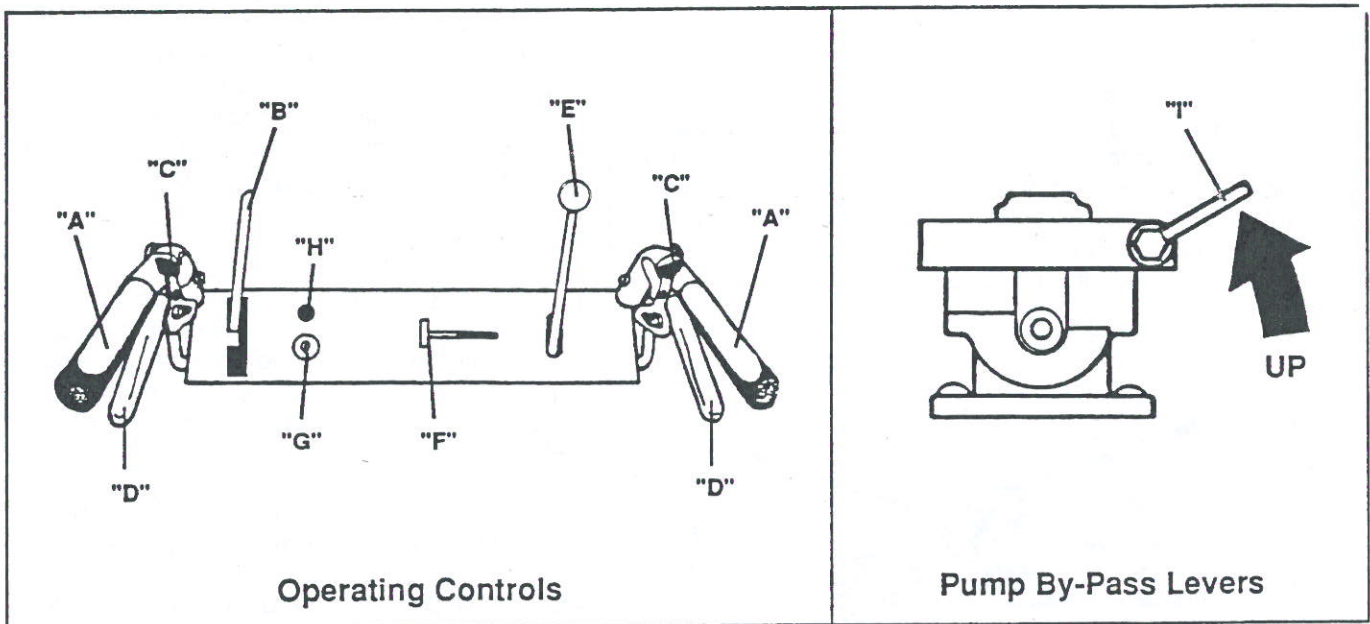
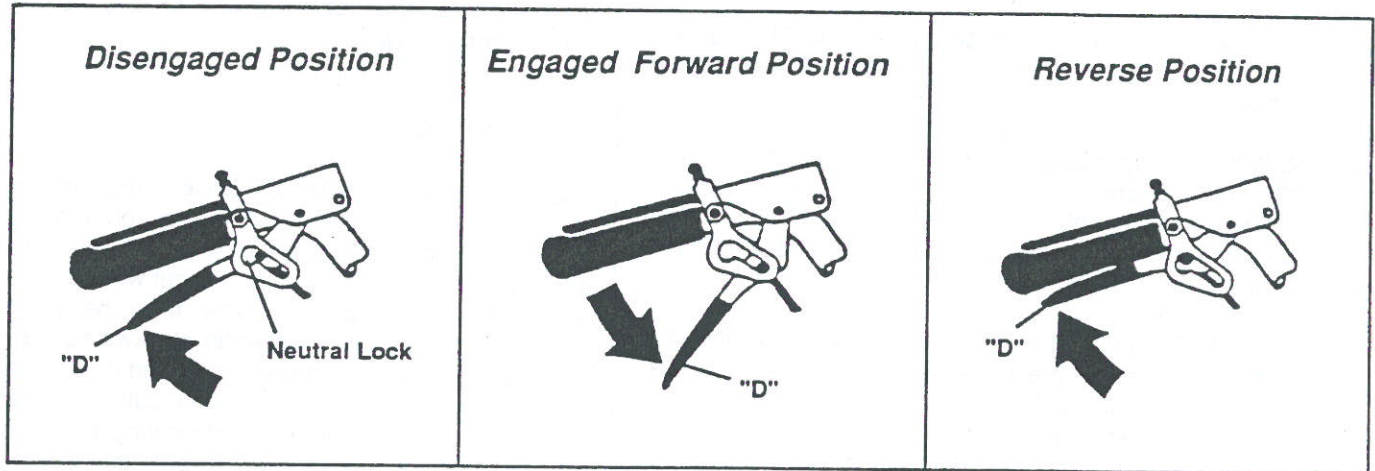

Figure 4
Figure 5
**Operator Presence Control Levers "A" (Figure 4):** The operator presence controls are a set of levers which when held down on the handle grips, energize the safety interlock switch. **Important:** Should the operator for any reason let go of both the operator presence control levers "A" while mowing, the safety interlock system will stop the engine.
**Blade Engagement Lever "B" (Figure 4):** To engage cutter blades, slowly push blade engagement lever "B" forward to the ENGAGED slot position. To disengage blades, pull blade engagement lever back toward operator to the DIS-ENGAGED slot position. **CAUTION:** Before starting engine or servicing mower, make sure the blades are disengaged.
**Traction Lever Locks "C" (Figures 4 & 5):** The traction lever locks "C" allow the operator to lock the traction control levers in neutral position for engine starting and free wheeling. To lock the traction control levers "D" in the neutral position (Figure 5), lift both traction levers "D" with fingers and pull lever locks "C" toward operator with thumbs until the curved end of the traction rod falls into the neutral slot (Figure 5).
**Traction Control Levers "D" (Figures 4 & 5):** Your mower is equipped with finger tip traction control levers "D", that control each wheel motor pump for turning, forward traction, reversing and stopping. **Important:** See Operating Instructions (Page 9) for detailed operating procedures.
**Ground Speed Selector Lever "E" (Figure 4):** The mower ground speeds can be changed without changing
**Throttle Control "F" (Figure 4):** The mower is equipped with a throttle control that increases and decreases engine speed. Please refer to console decal instructions for correct operation.
**Ignition Switch "G" (Figure 4):** Before attempting to start engine, the ignition key must be turned clockwise to the "RUN" position. To stop engine, turn key fully counter-clockwise, shutting engine off. **Note:** Always turn fuel supply off after stopping engine, storing or transporting.
**Choke Control "H" (Figure 4):** Certain engines may utilize a manual choke control for cold engine starting. Pulling choke control knob "H" outward activates the choke. Upon engine starting push choke control knob back in.
**Free Wheel By-Pass Valve "I" (Figure 4):** A hand operated by-pass valve (Figure 4) is located on each hydraulic pump to allow the mower to be pushed or free wheeled when the engine is not running. To override the hydraulic system, simply turn each by-pass valve counter clockwise (1 turn) and push or free wheel the mower. Prior to starting the engine, be sure to turn the by-pass valve clockwise to the close position. **Note:** Do not turn the valve handle more than 1-1/2 turns when preparing the mower for pushing or free wheeling.
## STEERING, STOPPING AND POWER TURNING (Figure 5):
Your mower is designed for the operator to hydraulically steer, turn, stop, and back up the mower by simply manipulating the traction control levers "D" (Figure 5) "up" or "down." Lowering both traction control levers "D" down into the engaged position (Figure 5) propels the mower forward. To make right turns — raise the "right-hand" traction lever. For left turns — raise the "left-hand" traction lever. **CAUTION: Due to the quick responsiveness of the hydraulic controlled wheel motors, use extreme caution when making turns.** To stop the forward motion of the mower — simultaneously raise both traction control levers "D" upward to the neutral (disengaged) position (Figure 5). To remain stopped, lock the traction controls into the locked, neutral position and move the ground speed control lever to neutral.
## POWER REVERSING (Figure 5):
One of the unique advantages of the hydrostatic mower is the ability to back and steer in reverse. When it becomes necessary to back up (reverse) your mower, slowly pinch both traction control levers "D" (Figure 5) up against the handle grips (Figure 5) and cautiously back up. Steering in reverse is accomplished by manipulating the traction control levers "D" (Figure 5) as necessary to back up your mower in the desired direction. **CAUTION: Always use extreme caution when backing up in reverse. Be alert to what is in behind you as well as your footing.**
## STARTING ENGINE (Figures 4 & 5):
1. Place the traction control levers "D" up into the neutral lock position (Figure 5).
2. Check to make sure that the blade engagement lever "B" (Figure 4) is pulled backward to the disengaged position, and the ground speed selector lever "E" (Figure 4) is moved down into the neutral start position on the console.
3. Push the throttle control "F" (Figure 4) "right" to the FAST position. Turn ignition key to the RUN position. Set engine choke as required. Standing on the "left-hand" side of the mower, give the recoil rope starter one quick pull. Upon engine starting, gradually move the throttle control "F" (Figure 4) to the desired engine speed.
## STARTING TO MOW (Figures 4 & 5):
1. When ready to mow, hold either the left or right hand operator presence control lever "A" (Figure 4) down on the handle grip and hold in position.
2. Move the ground speed selector lever "E" (Figure 4) to a slow forward speed. **Note:** Always begin mowing with a slow ground speed and increase as necessary to match the mowing conditions.
3. Slowly push the blade engagement lever "B" (Figure 4) forward into the ENGAGED slot position to activate the blades.
4. With your fingertips pinch up on the traction control levers "D" (Figure 5) and push the traction lever locks "C" (Figure 4) forward with thumbs. Slowly let the traction control levers "D" down simultaneously into the engaged position (Figure 5) and begin mowing.
**Important:** Should the operator for any reason let go of both of the operator presence control levers "A" (Figure 4) while mowing, the safety interlock system will stop the engine. To restart the engine, place the traction control levers "D" into the locked, neutral position. Move the ground speed selector lever "E" (Figure 4) into the "Neutral" start position and pull the blade engagement lever "B" (Figure 4) backward into the locked "Disengaged" position. Follow the Start Engine procedures described on page 9.
You can mow across a hill or grade by squeezing the traction control lever "D" (Figure 4) on the uphill side. This helps the mower from side slipping. **Note:** When changing directions, always turn uphill to give you better control of the mower and assisting you in keeping your balance.
### STOPPING MOWER (Figure 5):
1. To stop the mower, place the traction control levers "D" (Figure 5) in the neutral, locked position.
2. Move the ground speed selector lever "E" (Figure 4) down to the neutral position (Figure 4) and disengage the blades by pulling the blade engagement lever "B" (Figure 4) backward into a locked, neutral position.
3. Move the throttle control "F" (Figure 4) to the slow (turtle) position and idle engine for approximately 30 seconds before turning the ignition key "H" (Figure 4) to "OFF".
1. Referring to Figure 4 and 5, position traction lever locks "C" in locked neutral position and move ground speed selector "E" to the most rearward neutral start position.